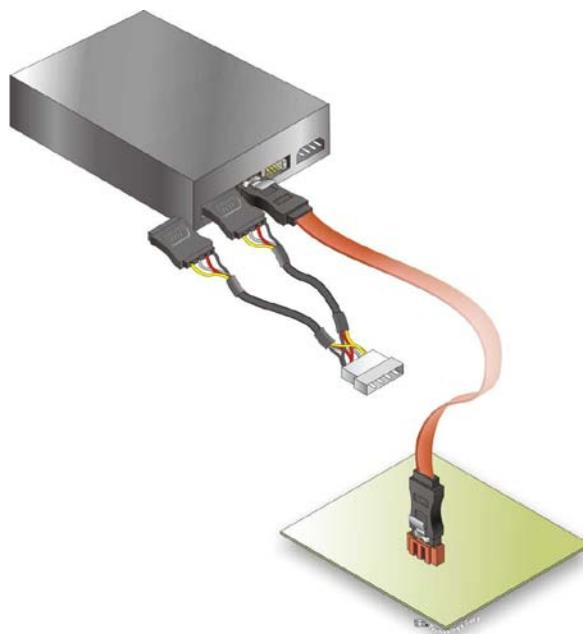

Figure 4-5: SATA Power Drive Connection
Step 3: Connect the cable to the SATA disk. Connect the connector on the other end of the cable to the connector at the back of the SATA drive. See **Figure 4-5**.
Step 4: Connect the SATA power cable. Connect the SATA power connector to the back of the SATA drive. See **Figure 4-5**.